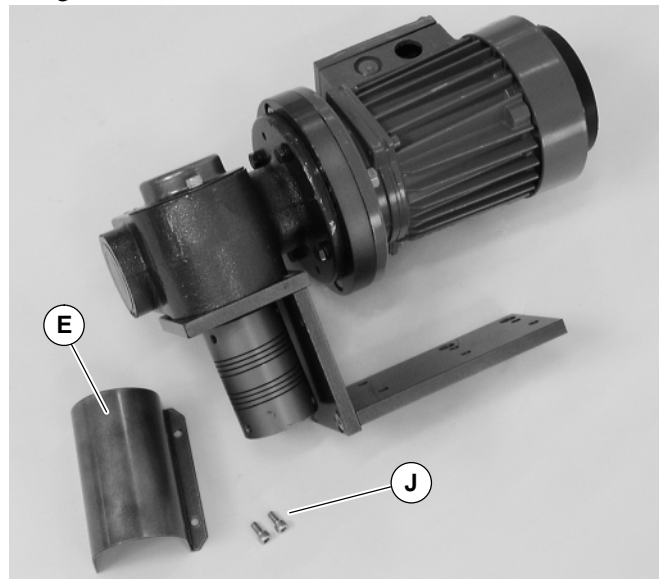

Figure 5
### 3. Remove screws (J of Figure 5) and coupling guard (E).